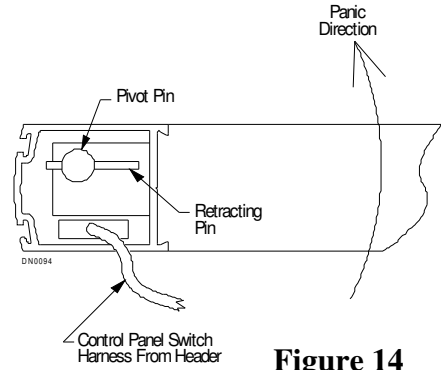

Figure 14
9. Route control panel wiring harness through hole in bottom of header past swing panel top pivot (See Figure 14 and 15).
10. Position swing panel over bottom pivot. Note panic direction and pivot location in Figure 14.